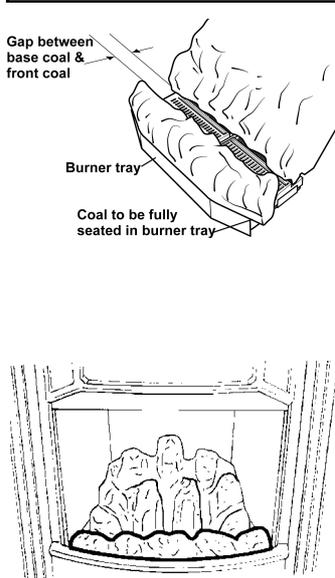

Fig. 30 Front Coal Location
11.2 Place the ceramic front coal in position in front of the base coal. Make sure that the side legs of the front coal are fully seated into the burner tray. There will be a gap between the rear of the front coal and the front of the base coal (See figure 30).